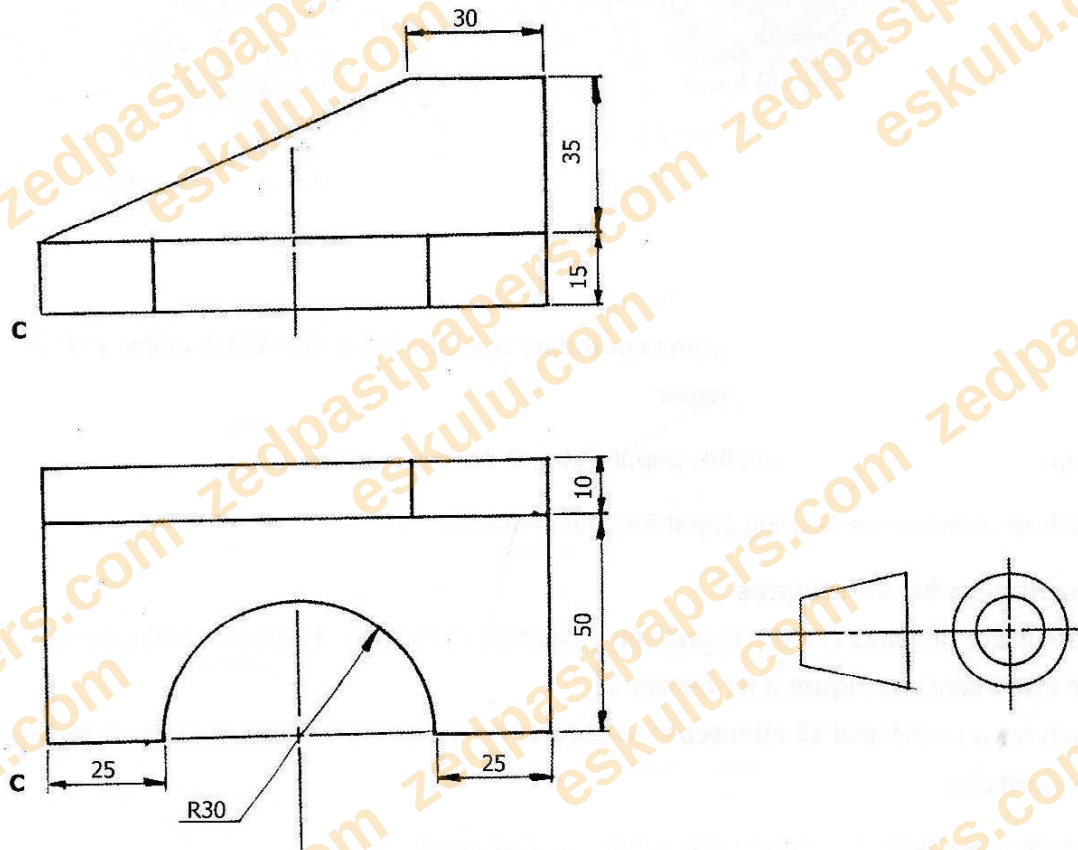

Figure 1
- 1** Orthographic views of a BRACKET are shown in First Angle Projection in **Figure 1.** Sketch freehand and in good proportion, a pictorial view of the bracket with 'C' in the foreground of the view.
Question 1. SECTION 1 [16]. Figure 1 shows first-angle orthographic views of a BRACKET (wedge-shaped top with a 30mm flat, 35/15mm heights; base with a semicircular R30 cutout, 25+25mm side divisions). Sketch freehand, in good proportion, a pictorial view with point C in the foreground, no instruments.